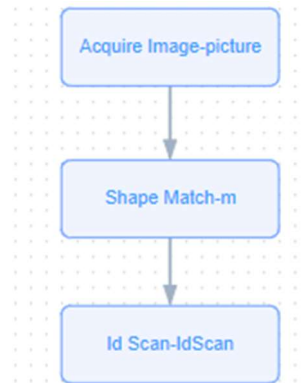

Figure 9.4.1 Vision project
Step 1: Edit the visual project, as shown in Figure 9.4.1;